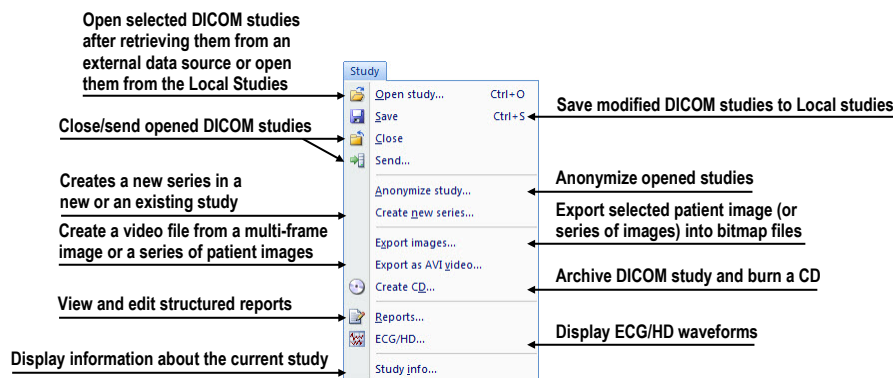

Figure 33 – Study menu
- **Study** - patient study handling, it contains functions for opening/closing/saving studies, anonymizing and burning studies, exporting images and creating/viewing structured reports about studies (see Figure 33).